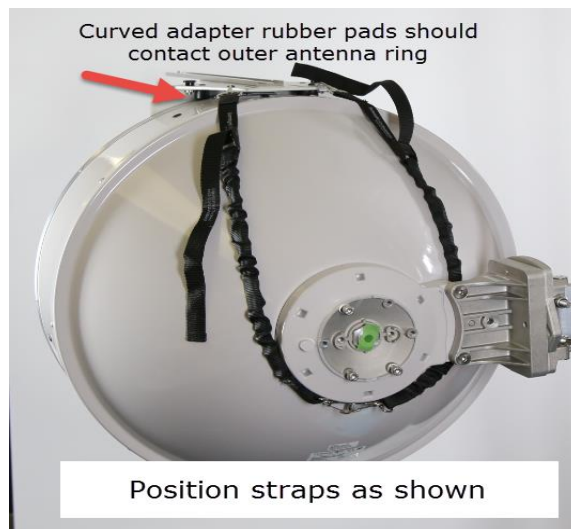

Figure 1
- 1) The elastic straps typically loop under the center of the antenna and back up to the mount. On some shielded “drum” style antennas, the strap can be wrapped around the circumference of the drum. See Figure 1 & 2